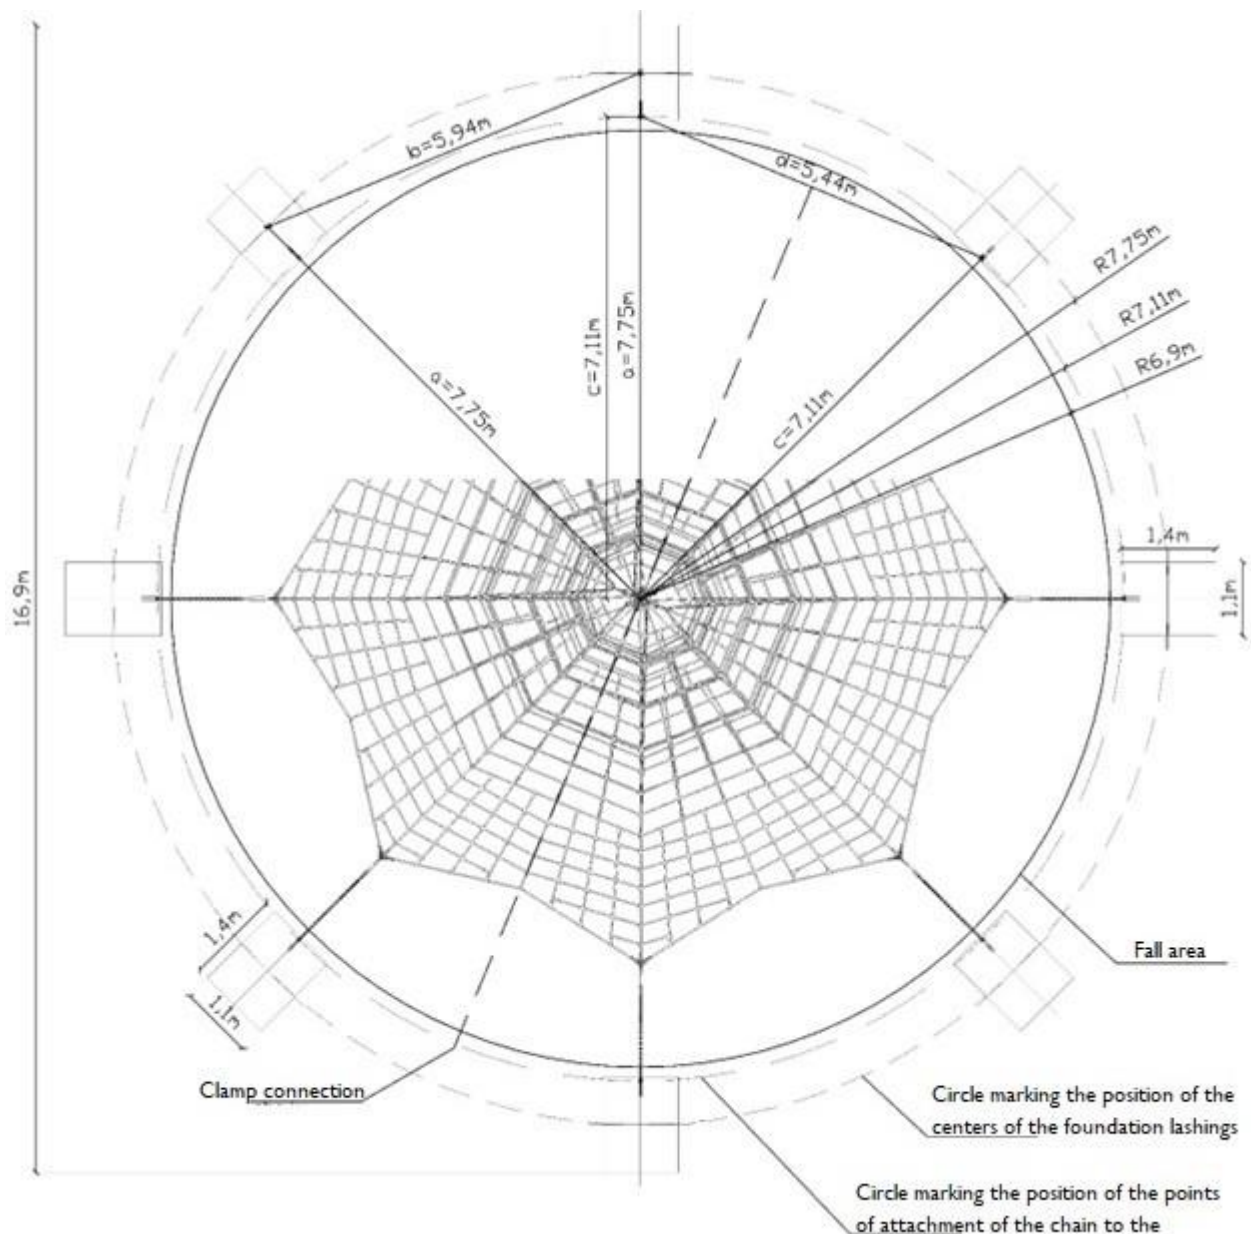
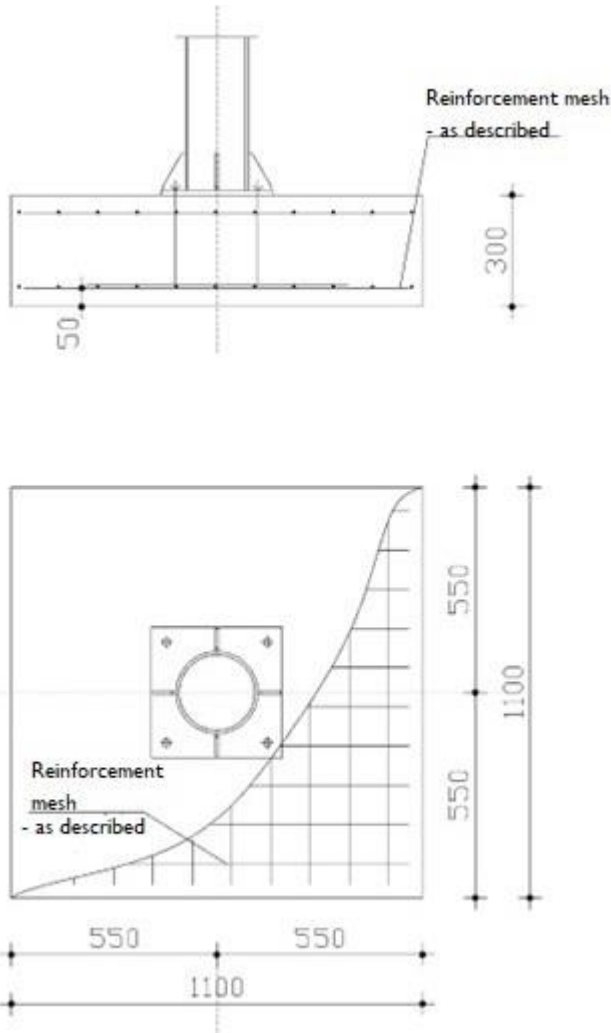

FIGURE 6
FIGURE 7
- 3) Determine the centers of the seven foundations according to the diagram below. (**Figure 6 – dimensions „a” , „b”**)
4) Determine the foundation according to the size in **Figures 6, 7, 8.**
- 7) Make foundation reinforcements according to the art of construction by following **Figures 7,8,4,5.**
NOTE: The most important control dimension before pouring concrete is "c", "d" dimensions in Figure 6.
- 9) After the concrete has dried, screw and set the pole (5) vertically according to **Figures 7,4.**
- 10) Using a crane, place the rope sheath (1) on the pole (5). Set the CALIBAN pyramid cap (3) with the ropes bolted on the pole (5).
- 11) Attach clamps (4) to the main pole (5) at the heights indicated in **Figure 2.** Set the clamps according to **Figure 6,** i.e., set the connecting clamps between the two foundations.